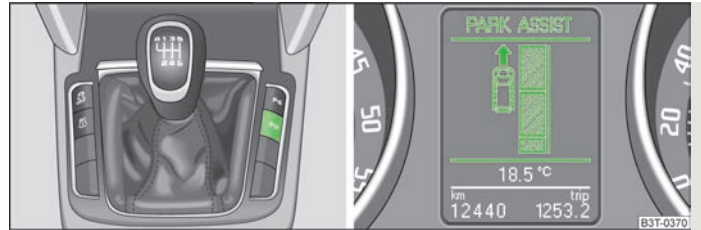

Fig. 121 Switch on display of the park assist in the information display/information display: Finding a suitable parking space
If the park assist system is switched on, a yellow indicator light illuminates up in the button » Fig. 121.
- Press the button » Fig. 121.
- Drive past the parking row at up to maximum 30 km/h and a distance of 0.5 m to 1.5 m » Fig. 121.
If the button is pressed at a speed greater than 30 km/h and less than 50 km/h, the message indicating that the speed for detecting the space has been exceeded will be shown on the display of the instrument cluster. If the speed drops below 30 km/h, the condition of the park assist system is automatically displayed in the display of the instrument cluster. When exceeding a speed of 50 km/h, it is necessary to activate the display again by pressing the button » Fig. 121.